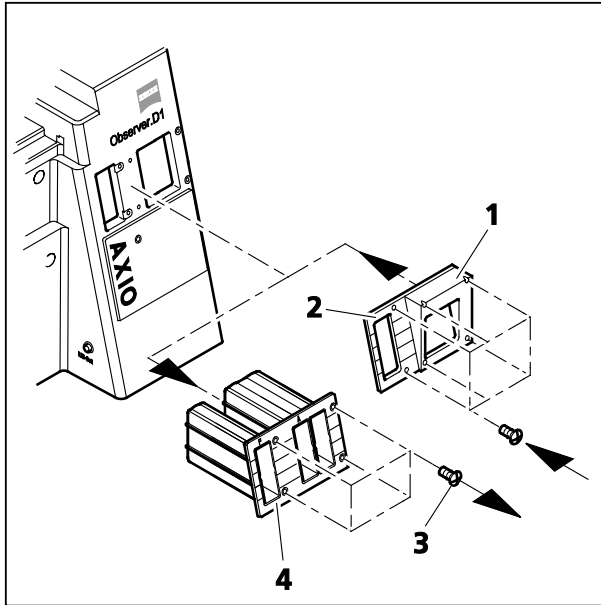

Fig. 56 Mounting adapter for third party components on the stand
- Loosen the four screws (Fig. 56/3) from the plastic cover (Fig. 56/4) and remove the cover from the stand by pulling to the right.
- Mount the mounting adapter (Fig. 56/2) to the stand and fix with six screws.
- Mount the desired third-party component over the wedge (Fig. 56/1) of the mounting adapter into the stand.